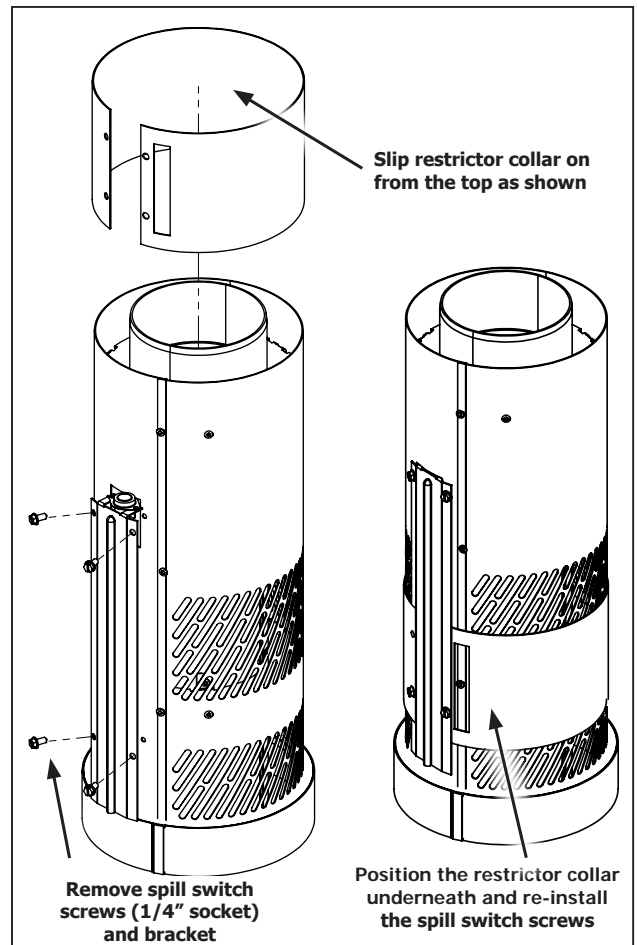

Figure 36: Drafhhood Restrictor Collar
2. Install the supplied restrictor collar onto the Drafhhood Adaptor as instructed below (Figure 36).